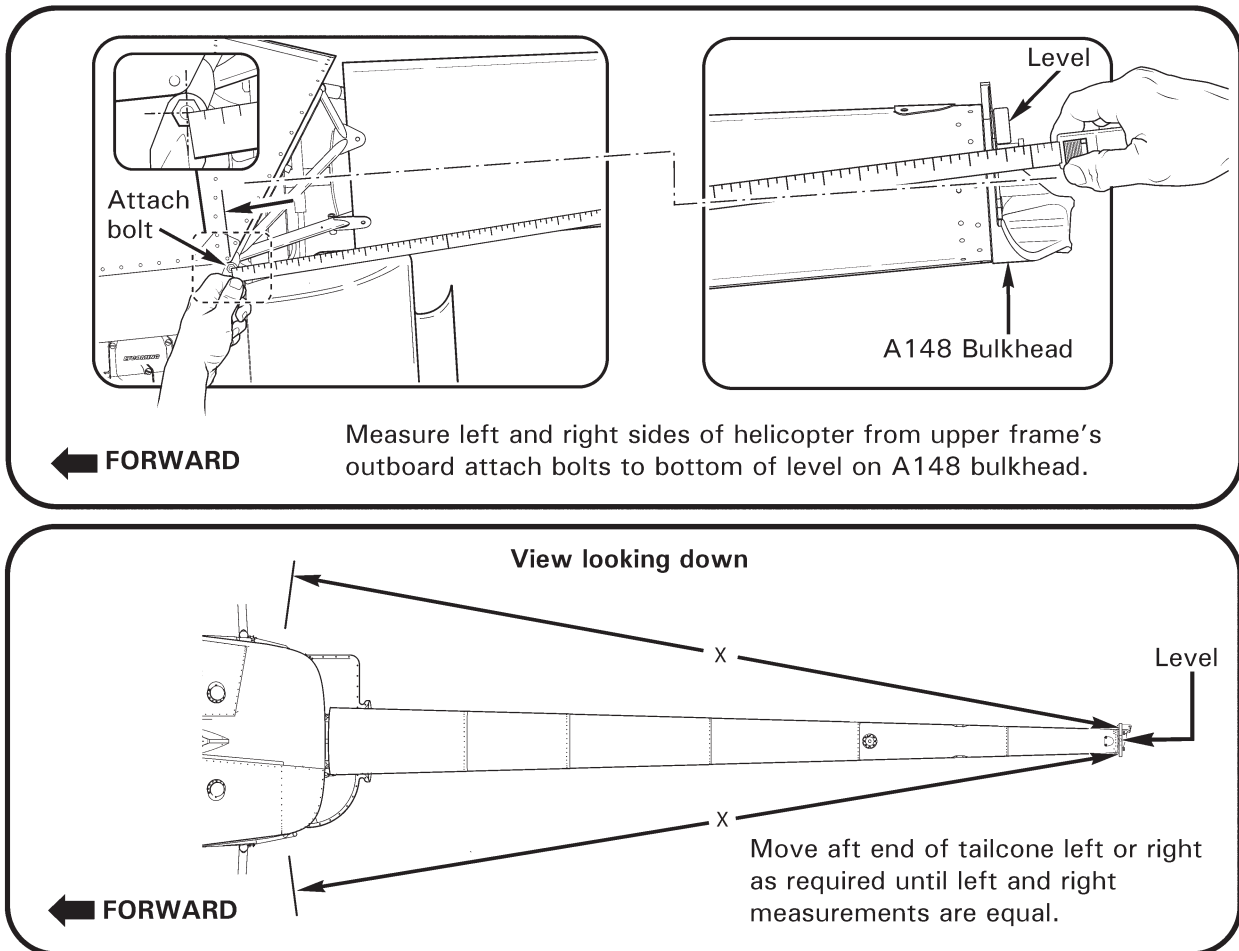

FIGURE 4-2B TAILCONE LATERAL ALIGNMENT
4. Refer to Figure 4-2B. Measure left and right sides of helicopter from upper frame's outboard attach bolts to bottom of level on A148 bulkhead. Move aft end of tailcone left or right as required until left and right measurements are equal.